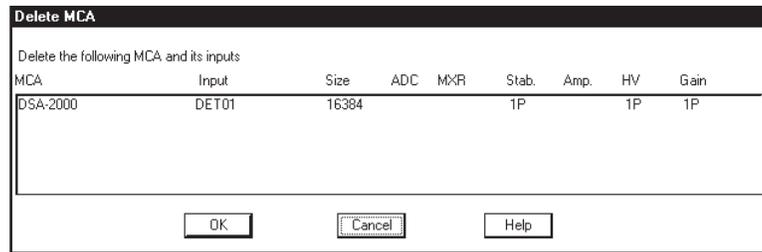

Figure 12 The Delete MCA Dialog
2. Clicking on the **Delete MCA** command in the **Edit** menu to see the Dialog Box in Figure 12. Click on **OK** to remove the entry.